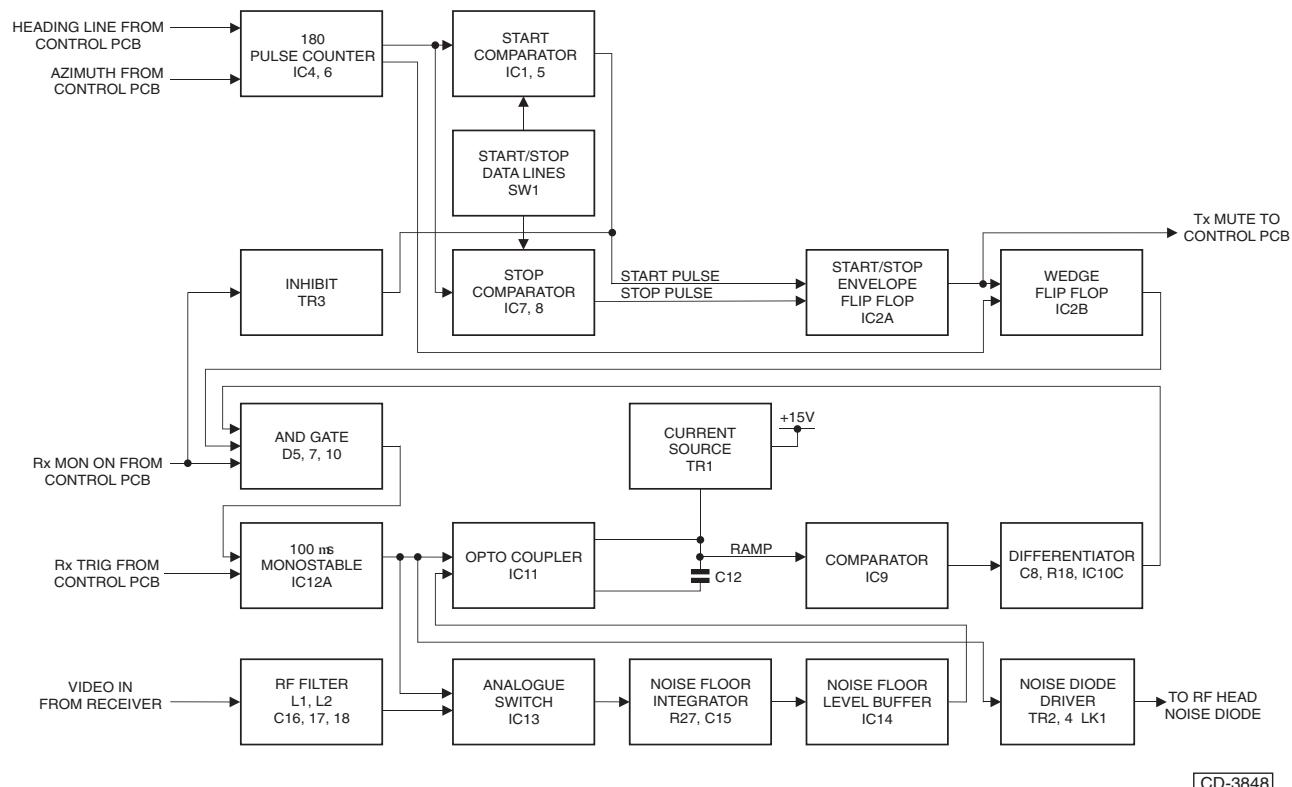

Figure 7c - Receiver Monitor PCB (CTX-A252): Block Diagram
- 17 A block diagram of the Receiver Monitor PCB is shown in Figure 7c, below.